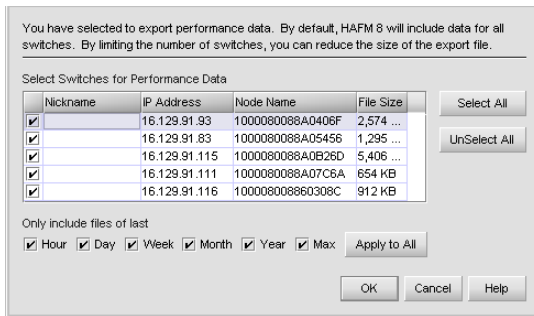

Figure 16 Select Switches dialog box
**NOTE:** Performance data is an optional feature. If you purchased this option, you can select the switches for data export (Figure 16).